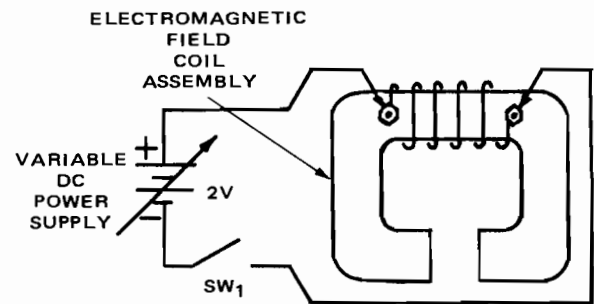

Fig. 12-2-1
2. Before attaching electromagnetic field coil to motor unit, connect a variable power supply set for 2 V dc. See Fig. 12-2-1.